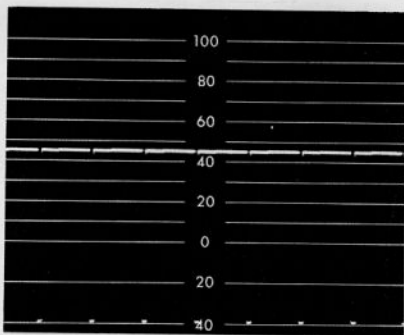

Figure 52—TW Pulse
- a. TW—a 240-Hz (or 250-Hz)\* tonewheel pulse should be present, See figure 52.